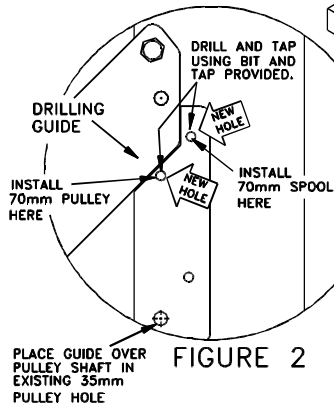

FIGURE 2
2. Remove the 35mm Pulley and Spool from the column near the end of the upper arm. Reinstall the pulley shaft in the lower hole and place the Drilling Guide on the shaft. Clamp the guide in place and drill and tap two new holes using the guide as shown in Figure 2. Remove the guide and shaft. A new 70mm Column Shaft and Pulley Assembly will be used in the new lower hole. A new Column Pulley Shaft and Spool Assembly will be used in the upper hole. The 35mm Pulley and Spool will not be reused. Repeat this procedure at the center arm.